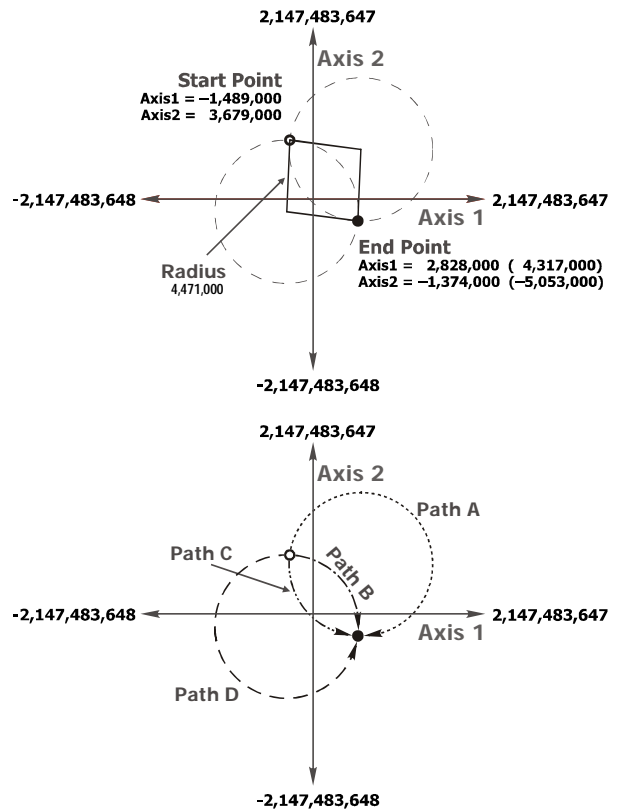

Figure R4.5 Radius Circular Move
The Radius method is shown in figure R4.5. In addition to the End Point, this method defines radius of the circular path. In addition to the Start Point, these two pieces of information actually define two circles in the plane, so an additional piece of information is used to define the move path. This piece of additional information is the sign of the radius value.
In order to determine the direction of travel, clockwise or counter-clockwise, the IANF2(E) has two commands for use with the Radius method. One command causes CW motion along the circle path while the other causes CCW motion. Note that CW and CCW motion in this case refers to the direction of travel in the X-Y plane as shown in the figure R4.5. It does not refer to the state of the outputs during the move.
The bottom half of figure R4.5 shows the four available moves based on the sign of the radius value and the move direction.